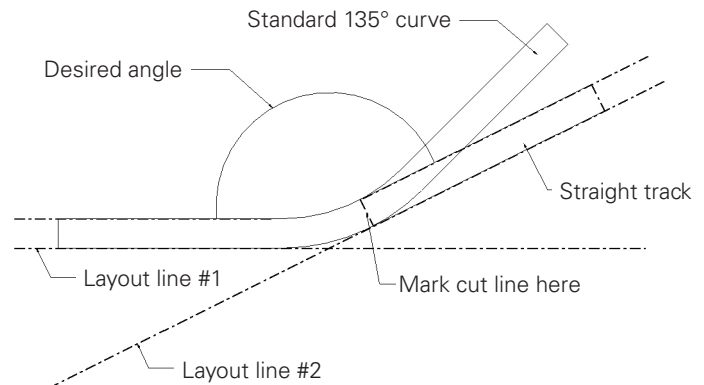

Figure 1: Cut curve to desired angle
- Refer to Figure 1 to cut curve to desired angle.